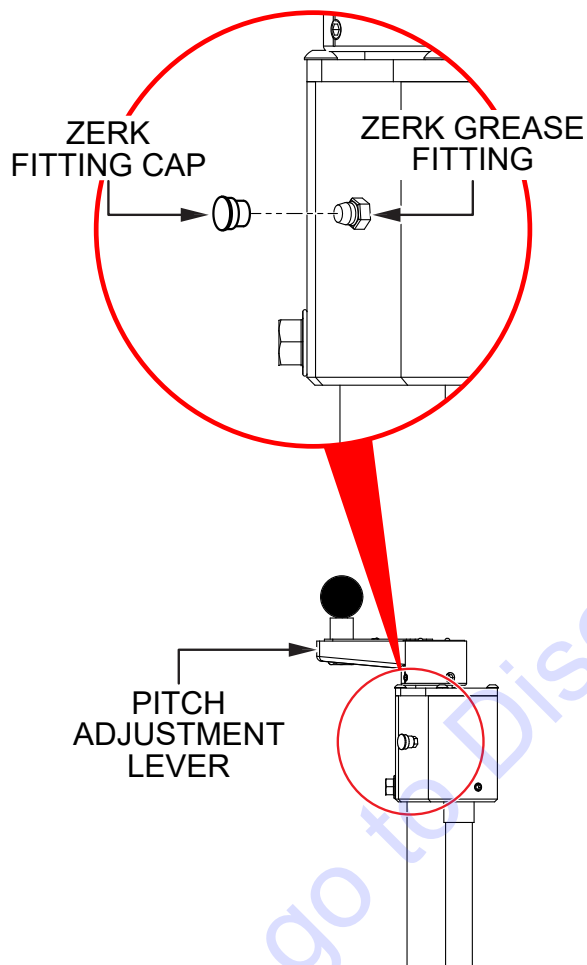

Figure 39. Pitch Tower Lubrication
1. Locate the Zerk grease fitting just below the pitch adjustment lever on either pitch tower (Figure 39). Remove the Zerk grease fitting cap and set it aside.